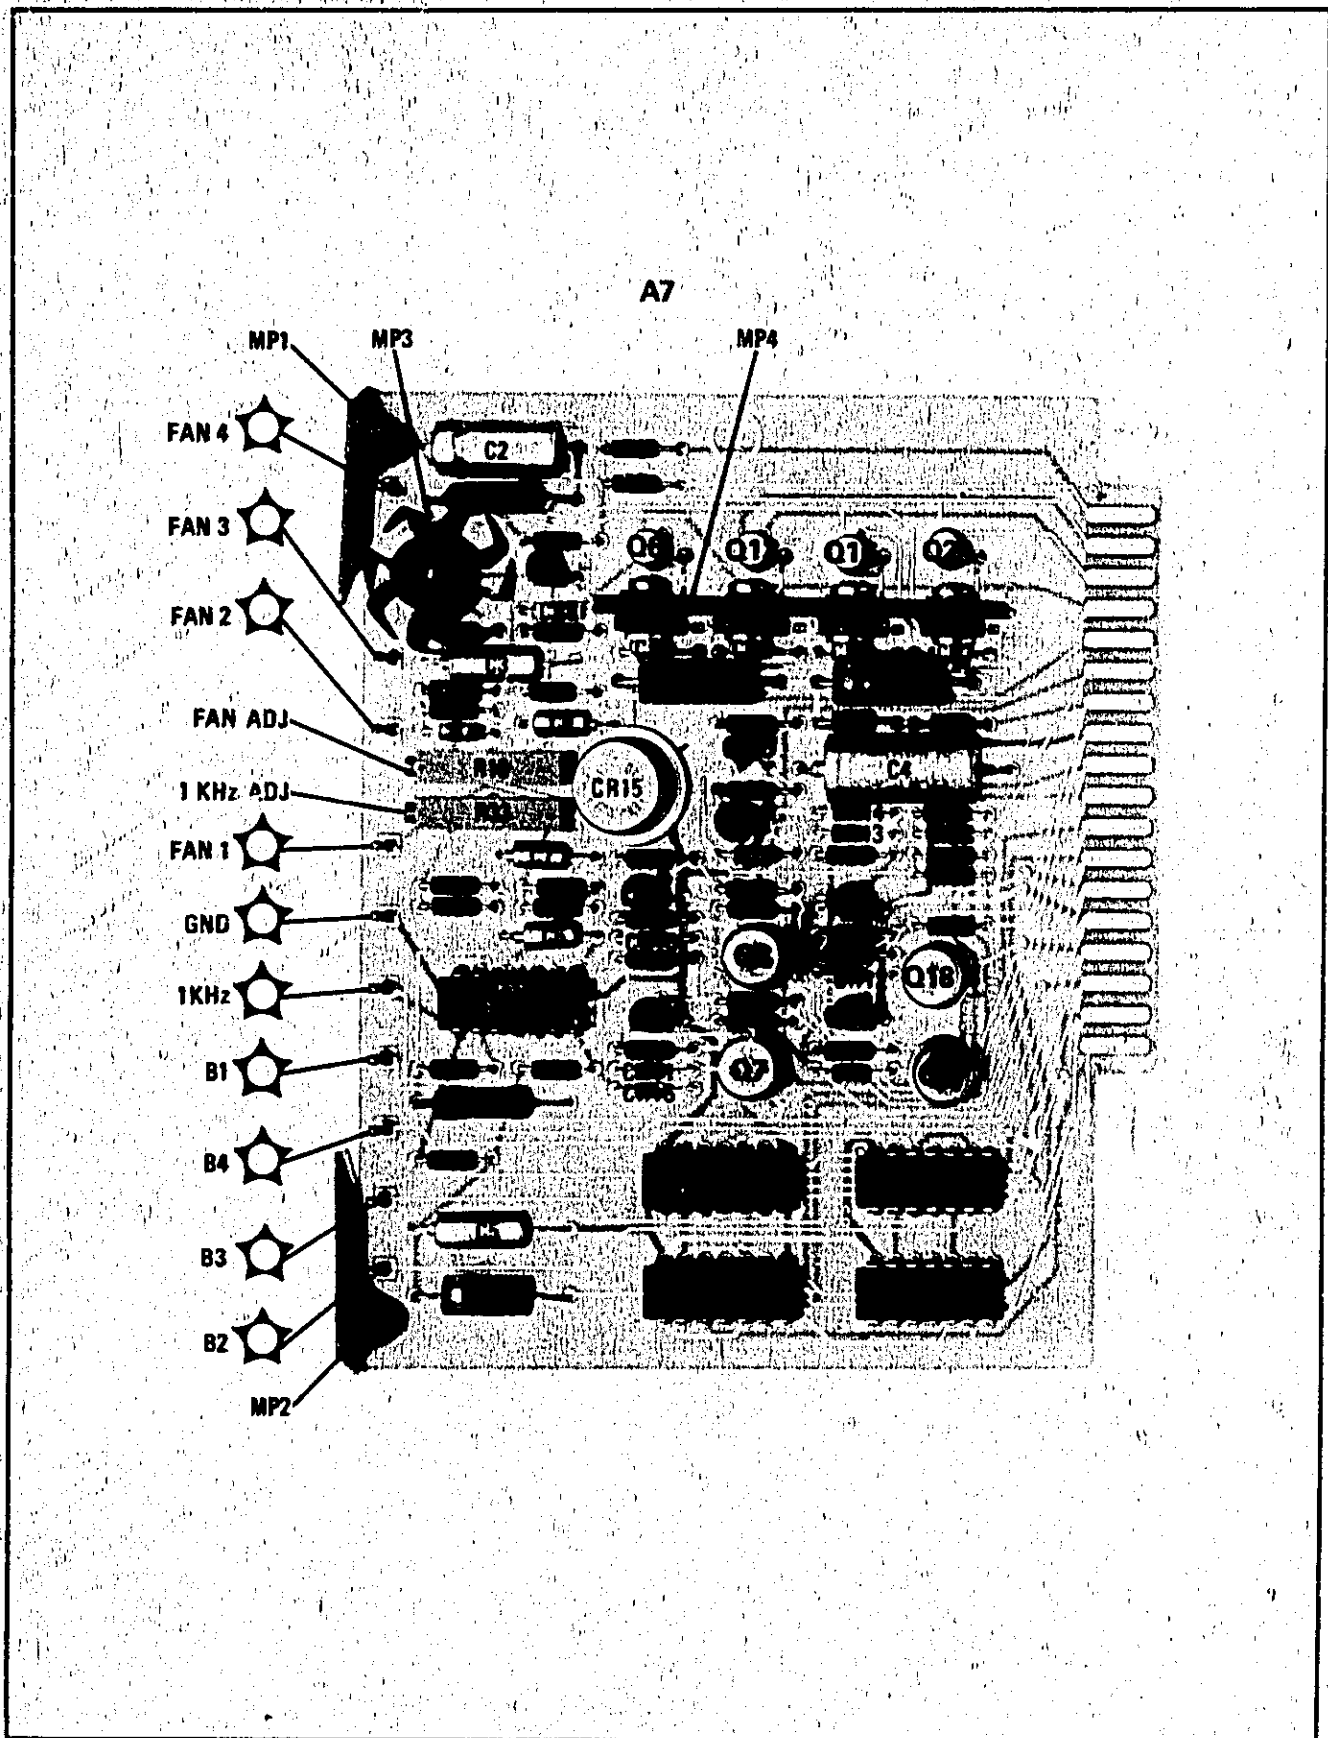

Figure 3. A7 Operations Control Board Assembly Component Locations
8. Remove the following components from the A7 board Q7, R20 and R21. See Figure 3 for component location.